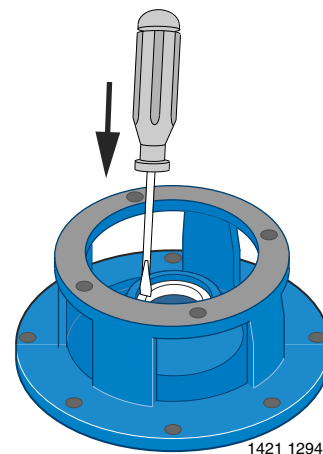

Figure 5
- Step 9. Place adapter/seal plate face down on bench and drive old stationary half of seal out of adapter/seal plate by carefully taping with screwdriver and hammer (Figure 5).